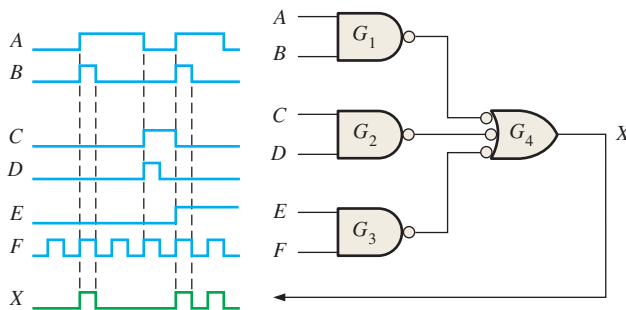

FIGURE 5-70
48. Repeat Problem 47 for the circuit in Figure 5-70, with input and output waveforms as shown.